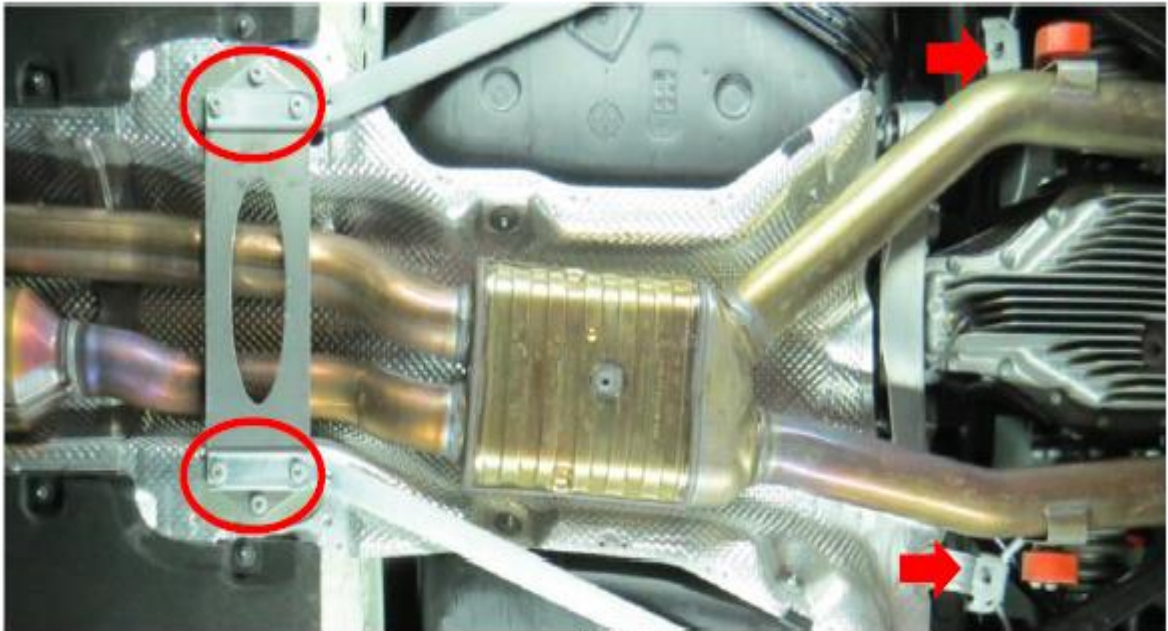

Figure 1-5
4. Use the 6mm hex wrench to remove the lower fixing beam. Figure 1-5
Remove the lifting lug screws using the 13mm wrench. Figure 1-5 arrow